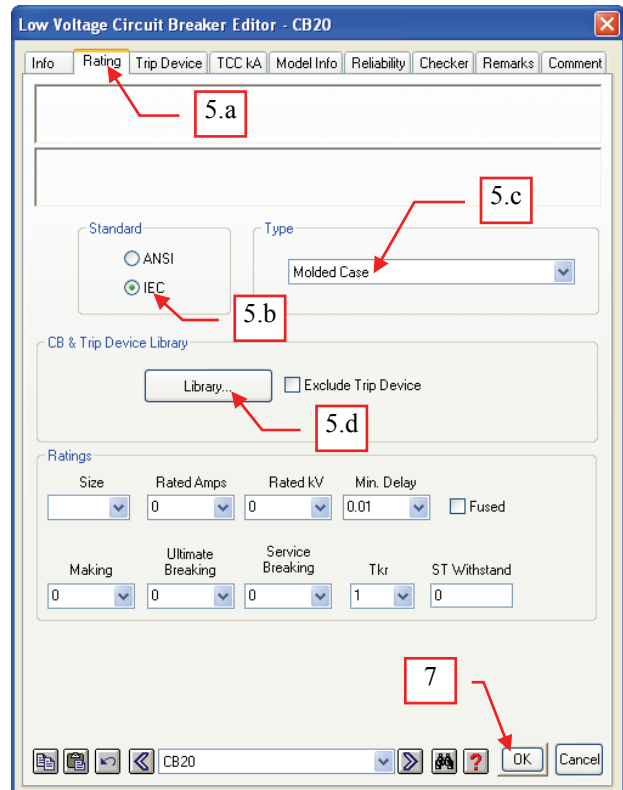

Fig. 29
5. In the “Low Voltage Circuit Breaker Editor – [X]” dialog box, do the following (see Fig. 29):
7. Click the “OK” button in the “Low Voltage Circuit Breaker Editor – X” dialog box (See Fig .29).